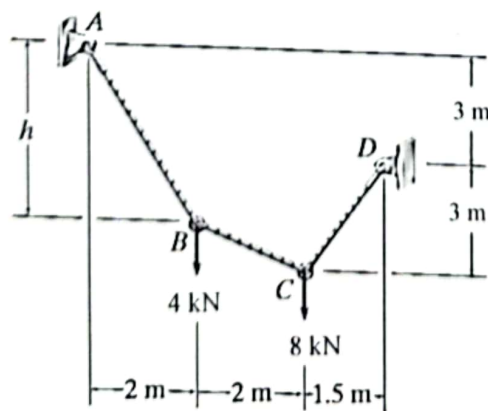

Fig. 5
5. a) Determine the tension in each segment of the cable and dimension h shown in Fig. 5. (20) 4